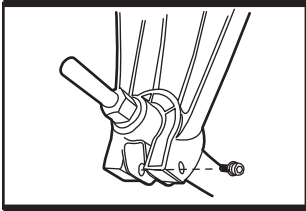

Fig. 4b
- c). Insert and secure the guard by the bolt and screw nut. Use a hex key to secure the bolt. (See Fig. 4b)